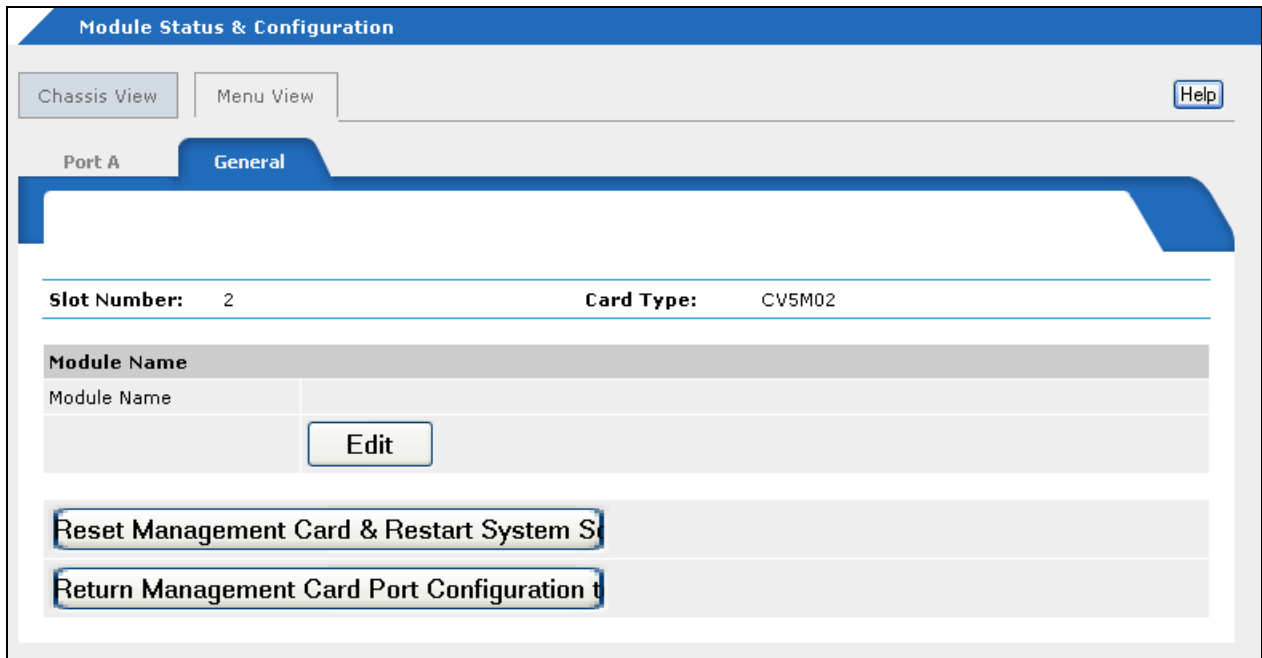

Figure 27. General Tab
3. Click the **General** tab, shown in Figure 27.